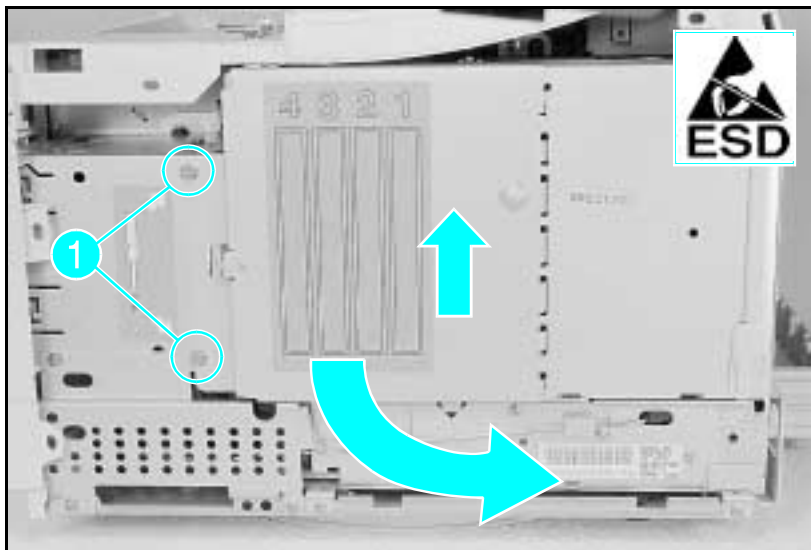

Figure 6-23a Removing the SIMMs Door (LaserJet 4)
- 2 Remove the (2) screws that hold the SIMMs cover (see Figure 6-23a, callout 1).